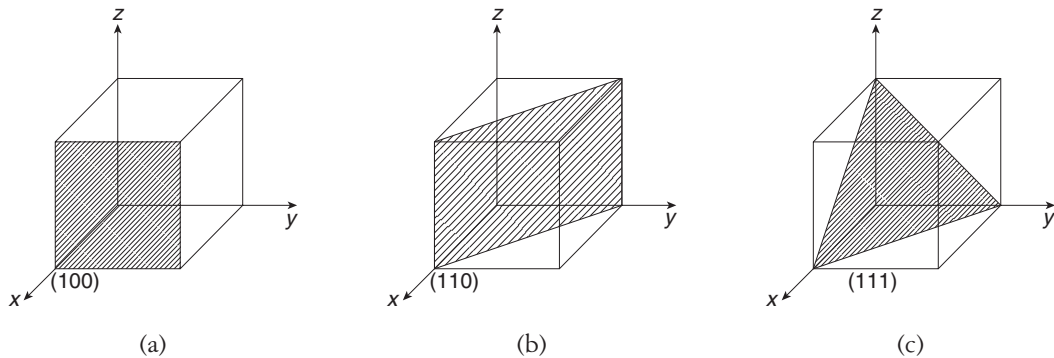

Figure 7 Miller indices of crystallographic planes (a) (100), (b) (110) and (c) (111).
1. The plane in Figure 7(a) has intercepts 1,  $\infty$ ,  $\infty$  for  $x$ -,  $y$ -,  $z$ -axes, respectively. We take the reciprocal of the intercepts to obtain Miller indices for this plane (100) or (one-zero-zero plane).
2. The intercepts of the plane in Figure 7(b) are 1, 1,  $\infty$ . Since the reciprocals of these are 1, 1, 0, the Miller indices of this plane are (110).
3. The plane in Figure 7(c) has intercepts 1, 1, 1. The reciprocals of these are 1, 1, 1. So, the Miller indices of this crystallographic plane are (111).